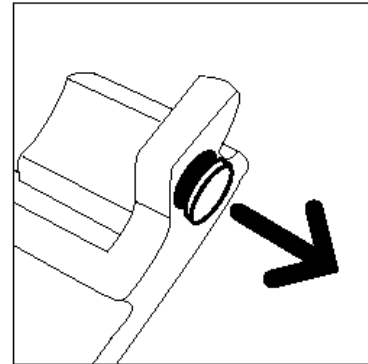

Figure 20: Removing the cap
- 5** Remove the gold cap from the front of the used Developer Waste Container, as illustrated in Figure 20.